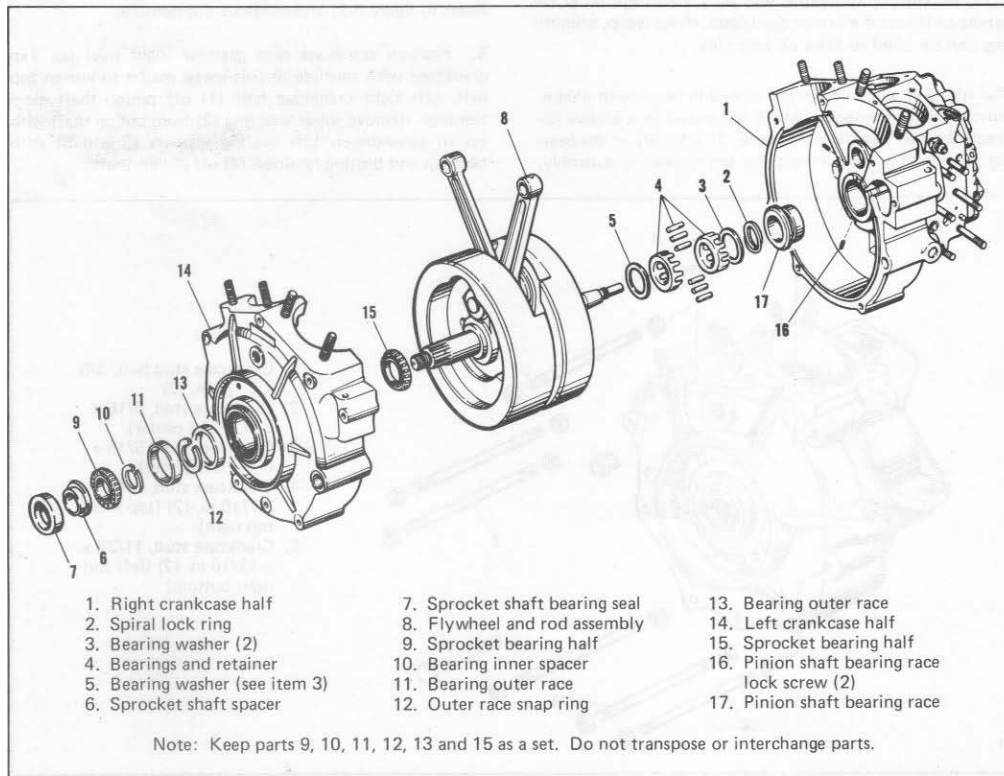

Figure 3-31. Crankcase — Exploded View
Refer to figure 3-31 and continue disassembly:
3. Examine pinion shaft and right crankcase bearing race (see 17, figure 3-31) for pitting, grooving and gouging at point where right main roller bearings ride. A shaft that is worn must be replaced. If bushing is worn beyond repair, replace as described in "Truing and Sizing Pinion Shaft Main Bearing."
A race that is worn beyond limits of oversize bearings must be replaced. To remove worn bearing race, remove two bearing race lock screws (16, figure 3-31) from inside of case. Heat case to 275 - 300 degrees F. Heating expands case and makes it possible to remove bearing race using less force. Press worn race (17, figure 3-31) out and new race in. New race must be lapped slightly to true and align with left case bearing, and to attain a size compatible with roller sizes available.
ASSEMBLING CRANKCASE (Figure 3-31)
Before loosening tool, check to see that the bearing is not preloaded by shaking crankcase half and feeling for a slight amount of play of crankcase half on bearing. Note that if there is no noticeable shake, or if flywheel assembly does not rotate freely in bearing, disassemble bearing and add a 0.003 shim, Part No. 23741-55, on one side of inner race spacer (10, figure 3-31). Again install bearing with tool and recheck for slight play in bearing.